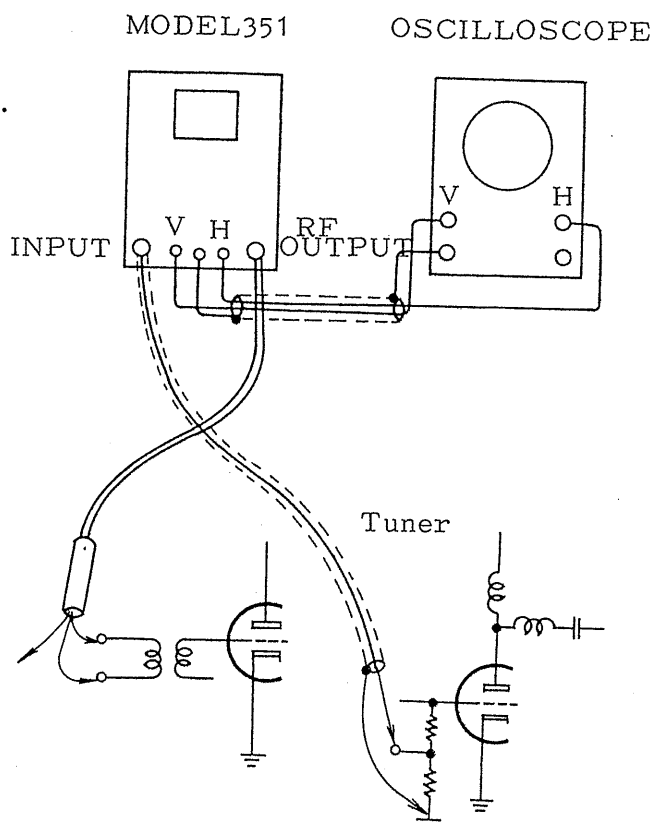

Fig. 5-1
(A) 300 ohms clips of attached cable (see Fig. 3-1) is to be connected to TV input terminal as shown Fig. 5-1.
(C) Next, turn slowly "MARKER FREQ." dial to clockwise or counter clockwise, strong beated waveform as shown in Fig. 5-1 appears at the frequency of  $n$  times 2 MHz on the oscilloscope screen, ( $n = 2, 3, \dots$ )